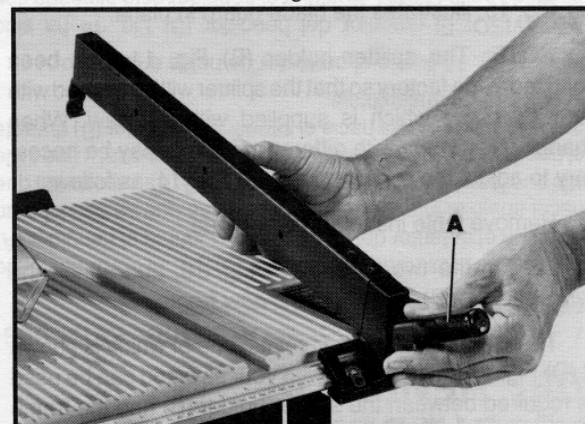

Fig. 20
1. The rip fence is normally used on the right hand side of the saw table. Lift locking handle (A) Fig. 20, and position the front end of the fence on the table as shown.